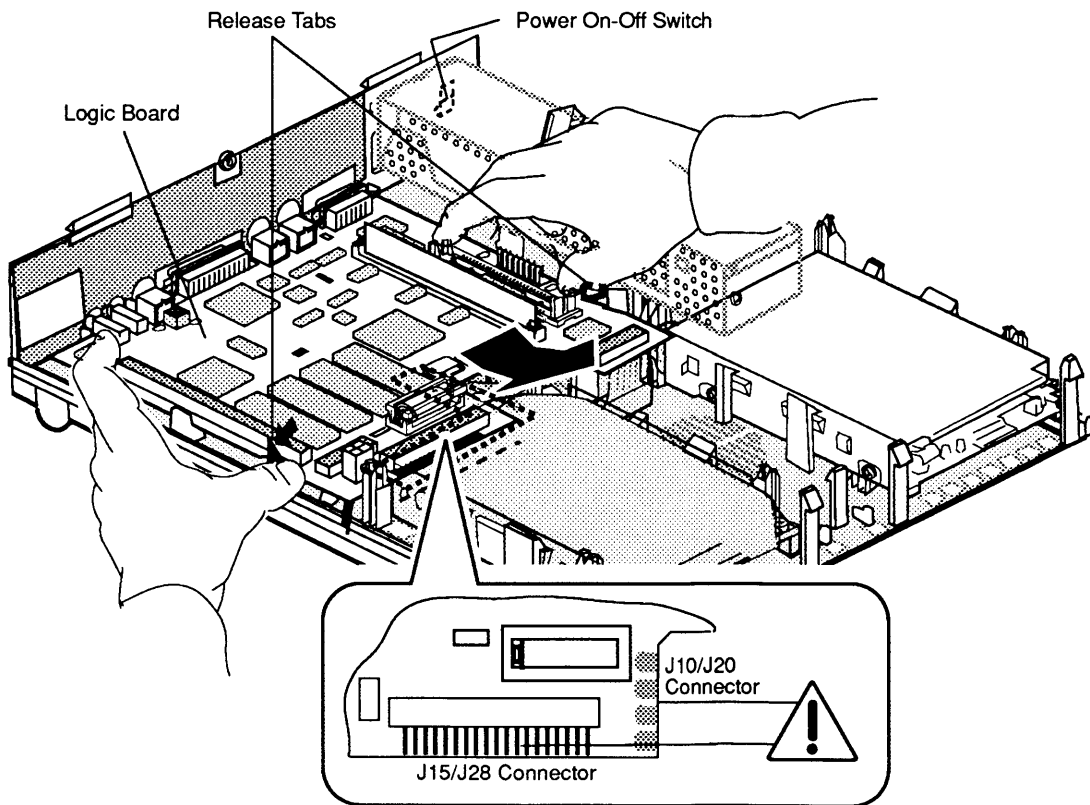

Figure 2-11 Removing the Main Logic Board
4. **Figure 2-11.** Use your thumbs to spread the two plastic tabs that secure the logic board to the bottom case. At the same time, use your forefingers to slide the logic board toward the front of the case. (Use the 96-pin expansion connector and the power supply connector to push back the logic board.)
CAUTION: *Because the oil from your skin can be harmful, do not touch the "fingers" of the J28 or J29 connectors on the Macintosh LC (Figure 2-11).*